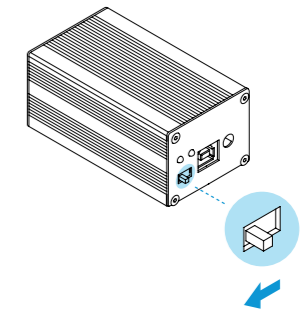

Figure 9.
7. Turn on the interface conversion block, check the input and output power indication (Figure 9).